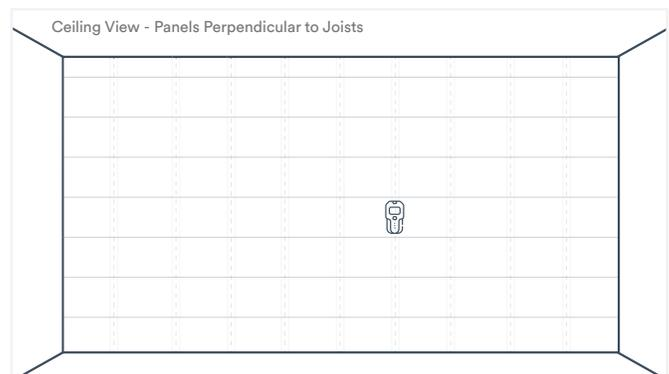

Fig. 21
2. Trusscore Wall&CeilingBoard panels should be installed perpendicular to the ceiling joists. If the ceiling joists are not visible, use a stud finder to locate their direction (Fig. 21).